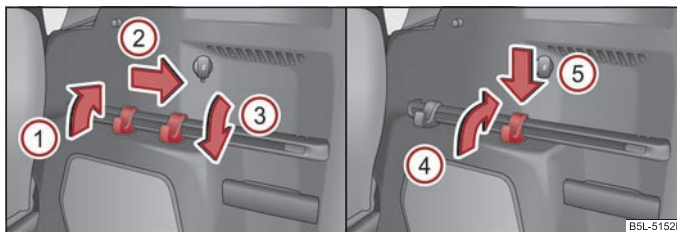

Fig. 72 Luggage compartment: Fastening strip with moveable hook/remove hook
A fastening strip is located on both sides of the luggage compartment with two moveable hooks each, in order to attach small items of luggage, such as bags etc. ⇒ fig. 72. An item of luggage weighing up to 7.5 kg can be attached to each hook. ▶
- Fold up the hook in direction of arrow ① ⇒ page 74, fig. 72 until an angle of approx. 45° is reached.
- Move the hook in direction of arrow ② ⇒ page 74, fig. 72 into the desired position and fold down the hook as far as the stop in direction of arrow ③.
- Fold up the hooks on the fastening strip in direction of arrow ① ⇒ page 74, fig. 72.
- Fold down the hooks in direction of arrow ③ as far as the stop ⇒ page 74, fig. 72.